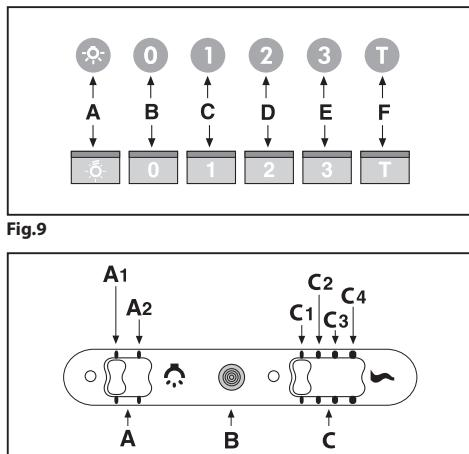

Fig.9
- **Commands luminous (Fig.9)** the key symbols are explained below: